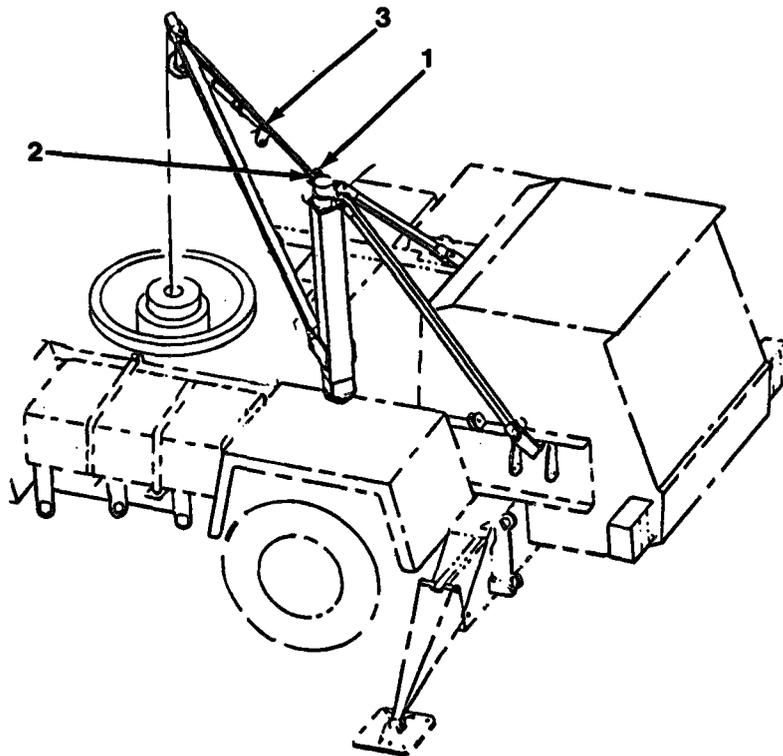

Figure 18-1
1. Loosen jam nut (1) and remove rod end (2) from truss rod (3, Figure 18-1).
2. Remove jam nut (1) from rod end (2).
1. Install jam nut (1) on rod end (2, Figure 18-1).
2. Install rod end (2) into truss rod (3). Do not tighten jam nut at this time.
6. Tighten jam nut (1).